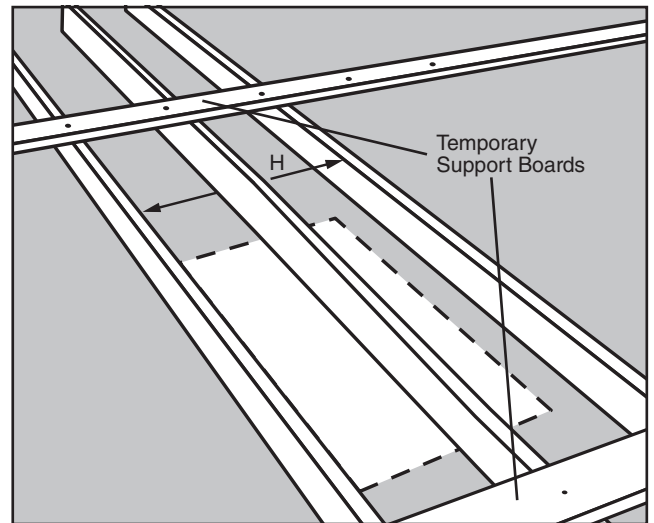

FIGURE 14
- STEP 1.** Measure the header length "H" between the *uncut* joists (See Figure 14).